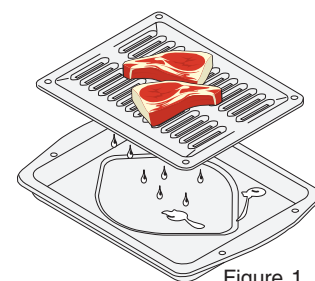

Figure 1
1. Place the broiler pan insert on the broiler pan (Figure 1). Then place the food on the broiler pan insert. **DO NOT** use the broiler pan without the insert. **DO NOT** cover the broiler insert with foil. The exposed grease could ignite.